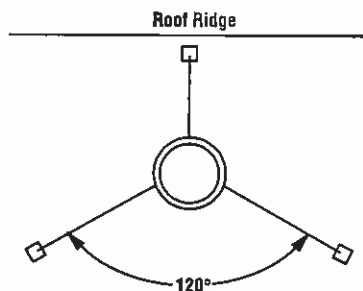

Figure 30
**Note:** If chimney extends more than 8' above roof surface, guy wires are also recommended. Use three (3) guy wires, attach to locking band assembly, extend and secure to roof in a triangular pattern (Figure 30). Guy wires are not supplied by the manufacturer.